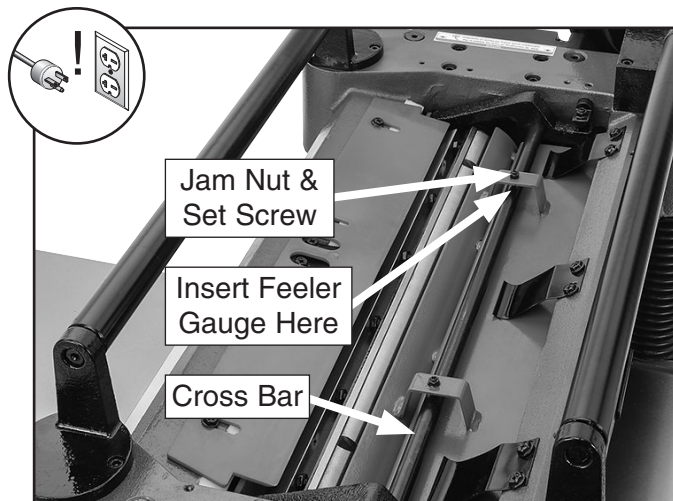

Figure 69. Feeler gauge location for adjusting chip breaker height when using wood blocks.
13. Loosen jam nuts and set screws on each side of chip breaker (see **Figure 69**).
14. Using a feeler gauge, adjust set screw so it is 0.020" from cross bar (see **Figure 69**), then tighten jam nut. Repeat on other side of chip breaker.